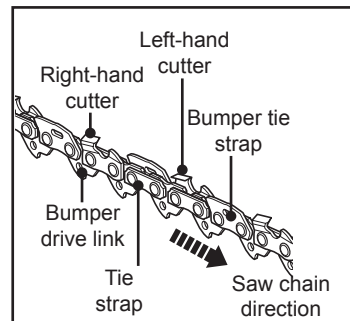

Fig. 40
1. Have the saw chain (8) sharpened professionally at an authorised service centre or sharpen the chain yourself by using a proper sharpening kit. Also observe the sharpening instructions supplied with the sharpening kit.
2. The height difference between the tooth and the ridge is the cutting depth. When sharpening the saw chain (8) you have to consider the following points (Fig. 40).